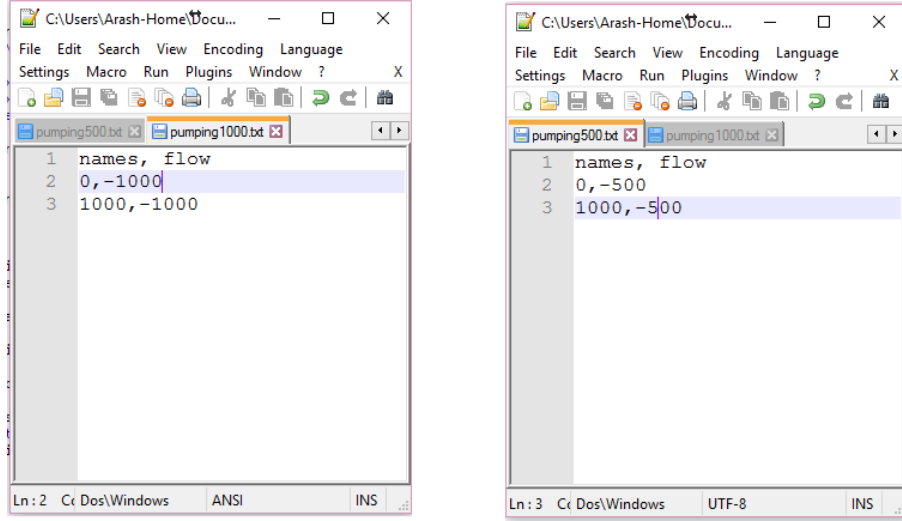

Figure 3: Pumping time-series files
- Select the Darcy block labeled "Darcy (113)" and type "-1" in the property **Head-storage relationship**.
- Repeat the previous step for all block in the lowest row (Darcy (114)-Darcy (128)).
At the time we consider a constant pumping from storage block *Darcy (54)* at  $1000m^3/day$  and storage block *Darcy (57)* at  $500m^3/day$  over a 1000days period. The inflow time-series files should look like Figure 3. Create the files and save them respectively as "pumping1000.txt" and "pumping500.txt". Select the block labeled *Storage(54)* and from the properties window find the property called **Inflow time series** and choose *pumping1000.txt*. Repeat the previous task for *Darcy (57)* block and select *pumping500.txt*.